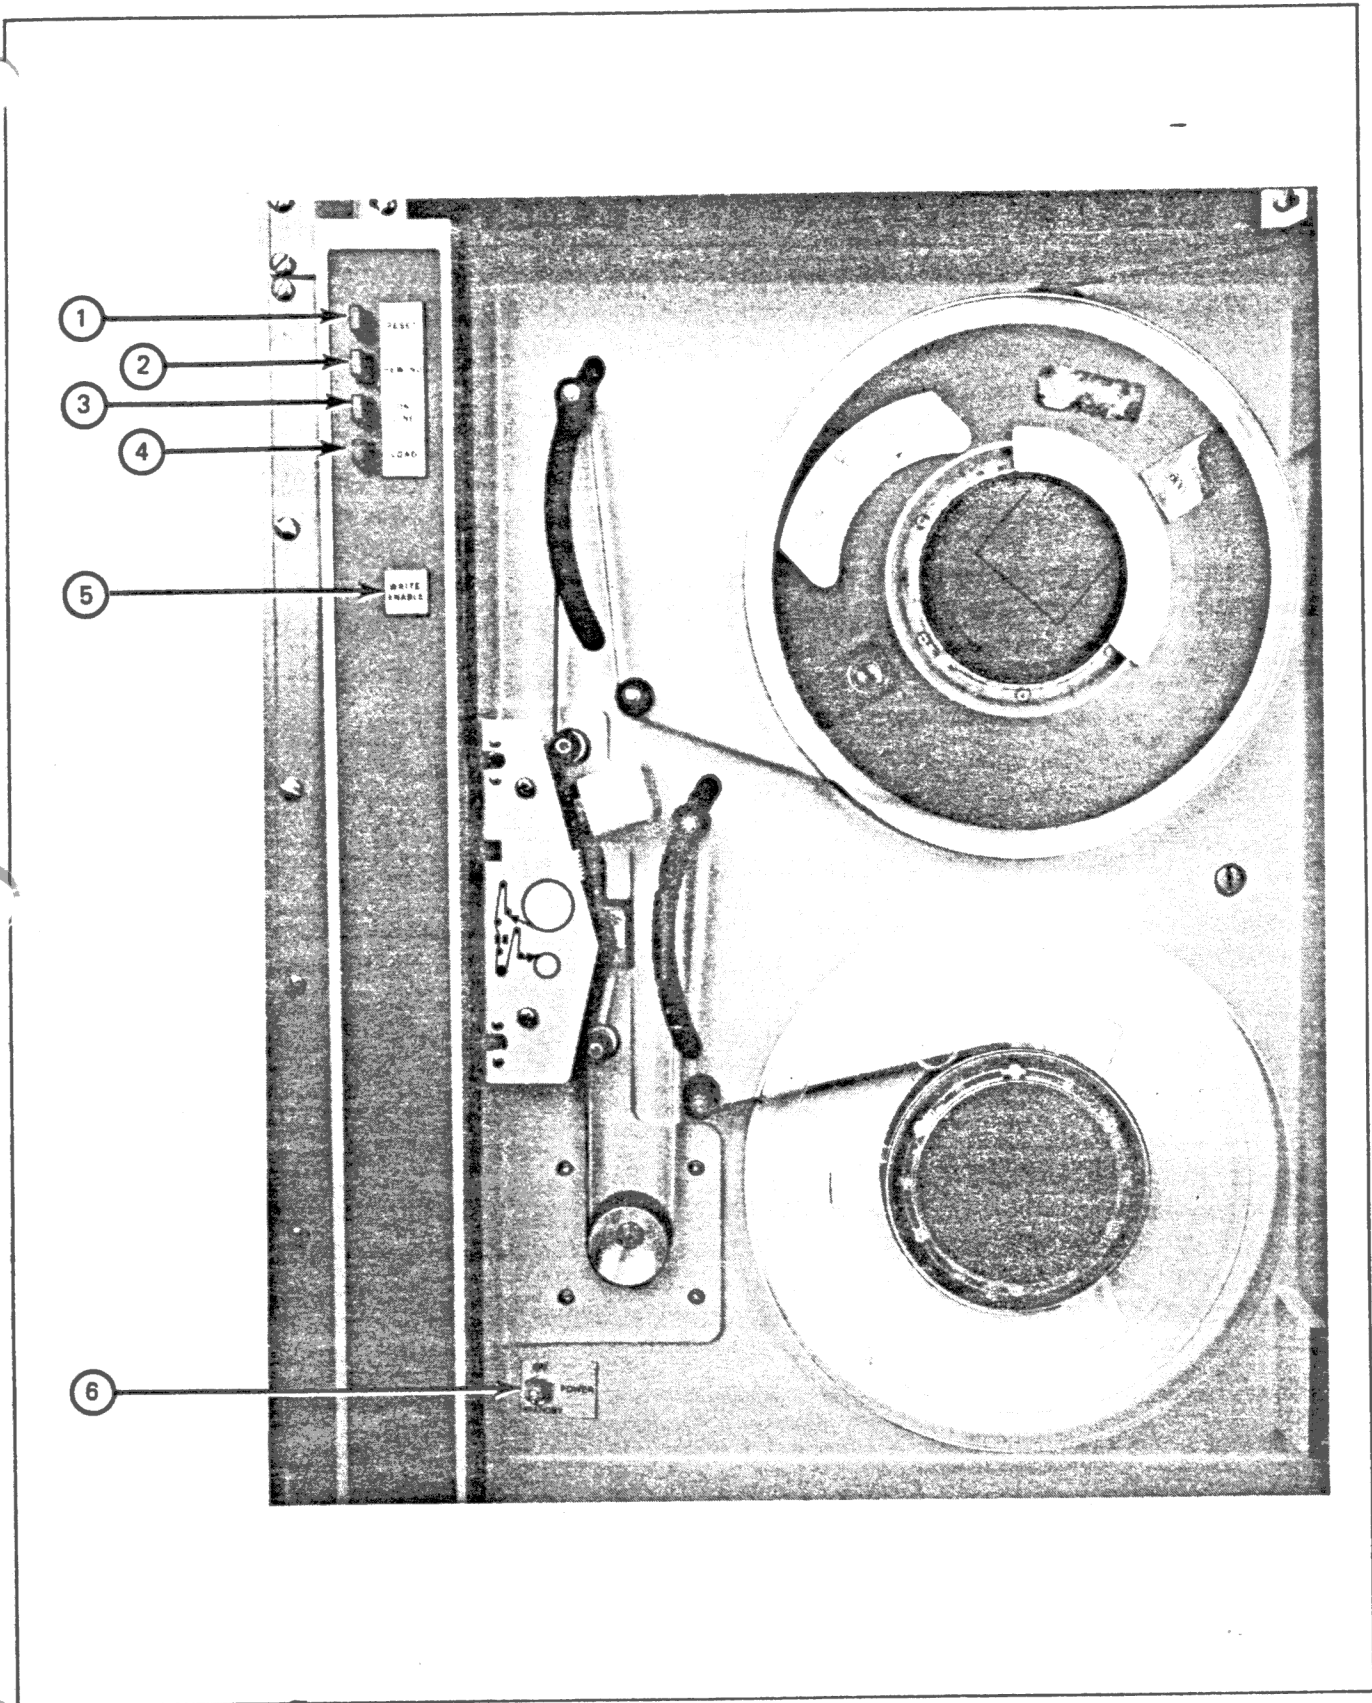

Figure 5. MTR, Controls and Indicators
2.05 An ITS System may be equipped with one, two, or no MTRs. When equipped, the MTR is used to record billing data for calls processed by the ITS System. Controls and indicators are illustrated in Figure 5 and explained in Table 4.